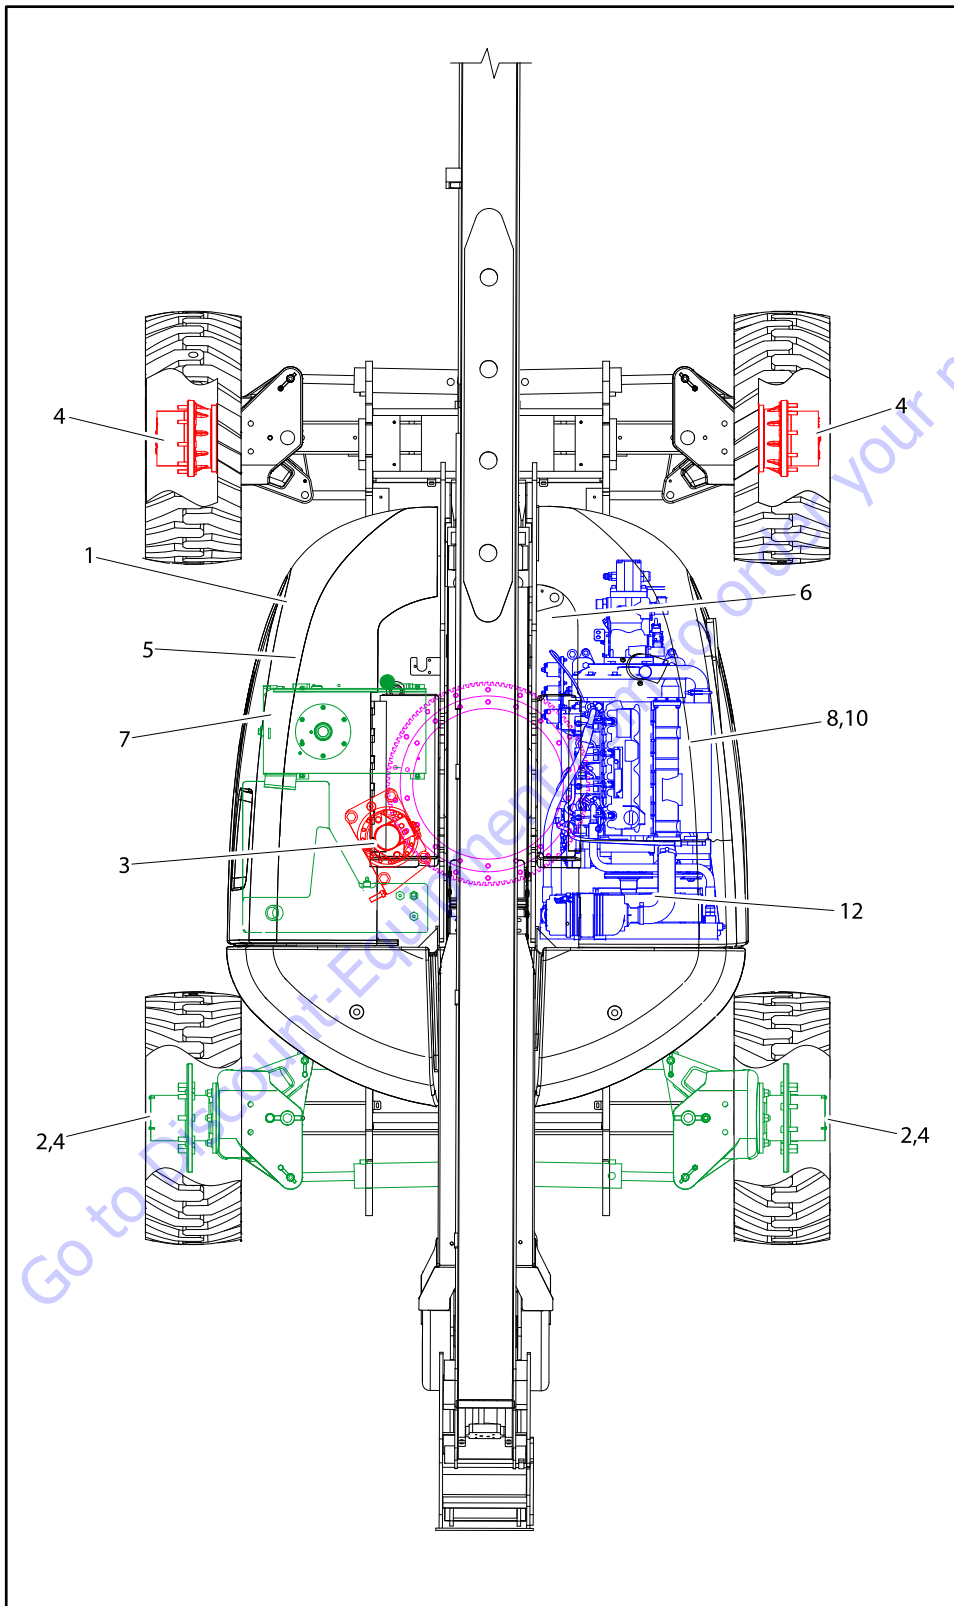
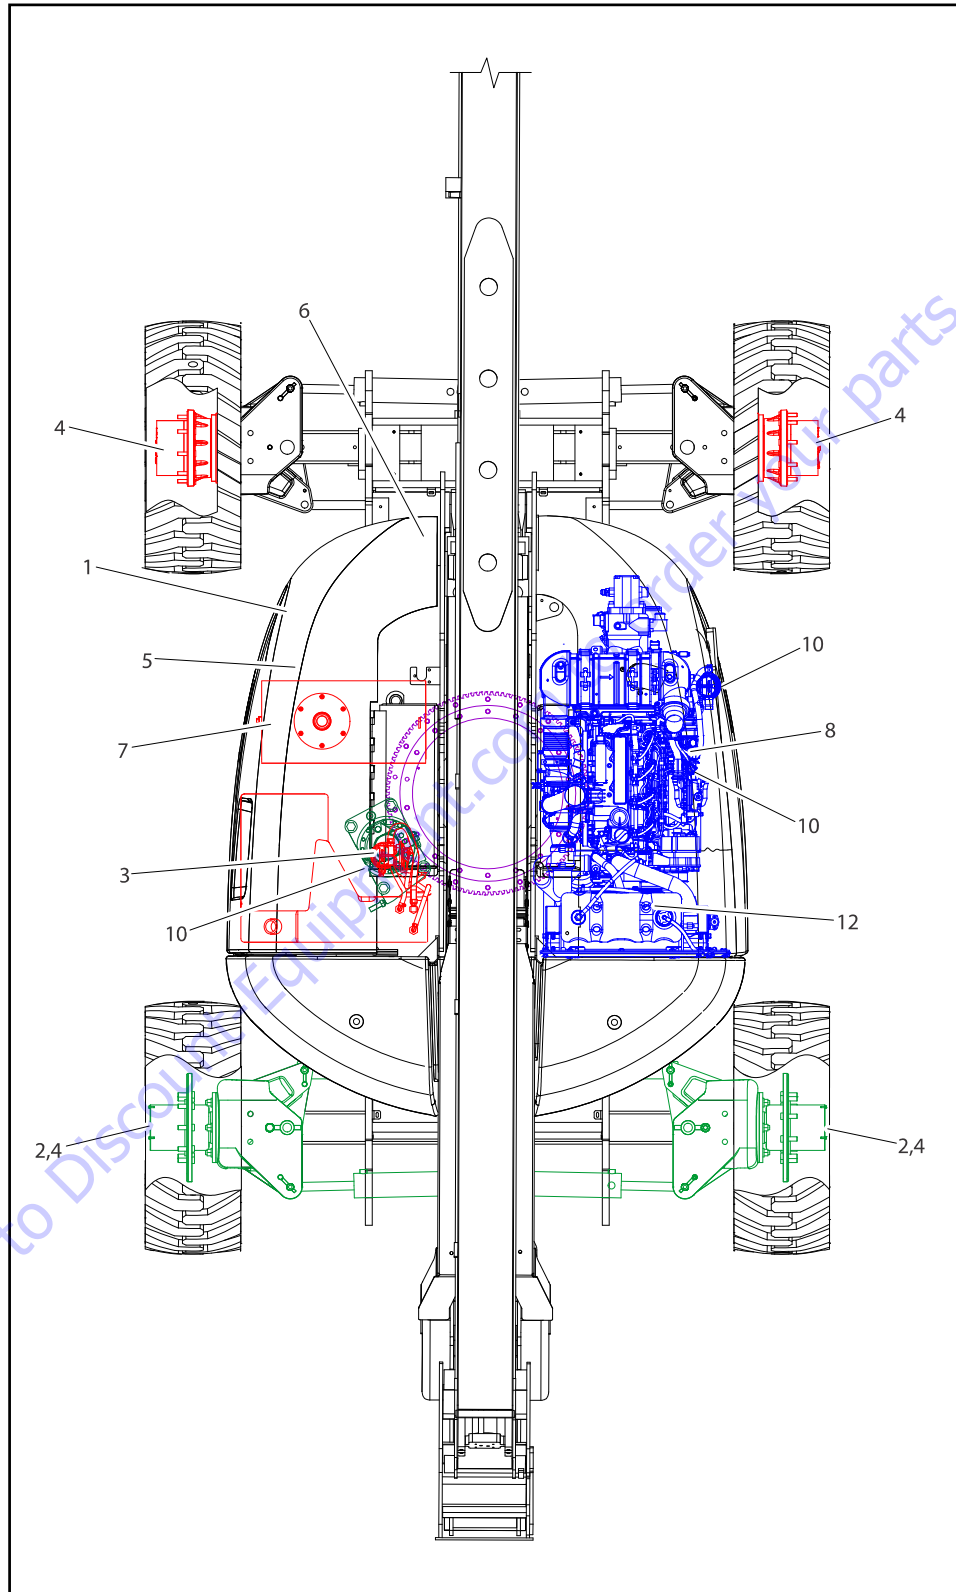
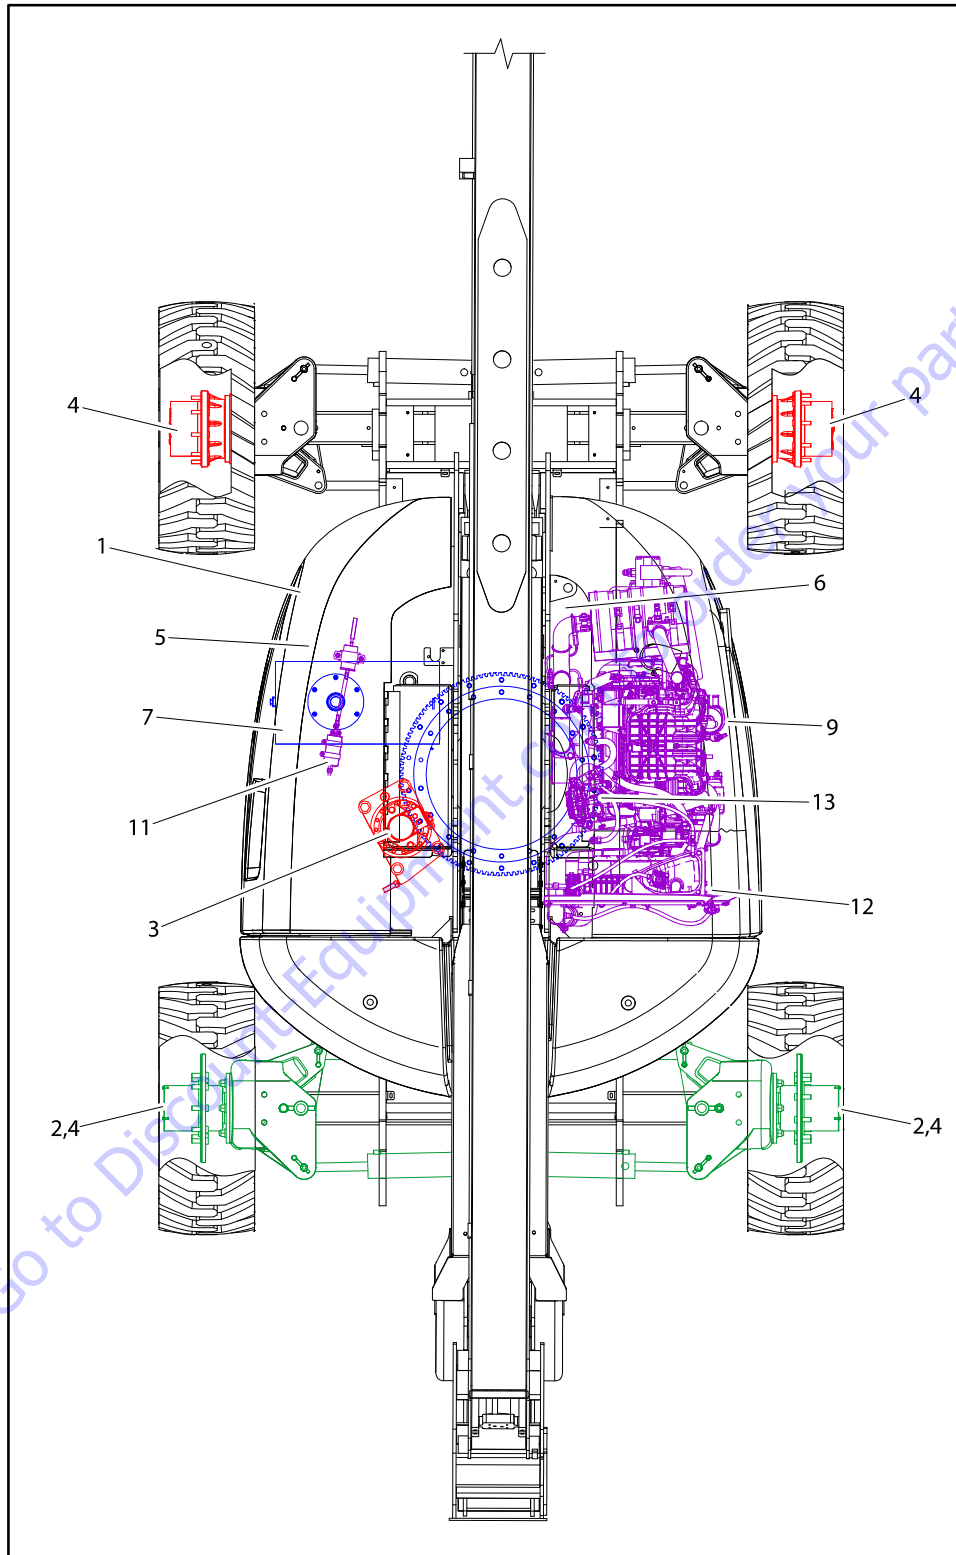

Figure 1-1. Operator Maintenance and Lubrication Diagram - Deutz D2011
Figure 1-2. Operator Maintenance and Lubrication Diagram - Deutz TD2.9
Figure 1-3. Operator Maintenance and Lubrication Diagram - Ford MSG 425
**NOTE:** The following numbers correspond to those in Figure 1-1., Figure 1-2. and Figure 1-3.